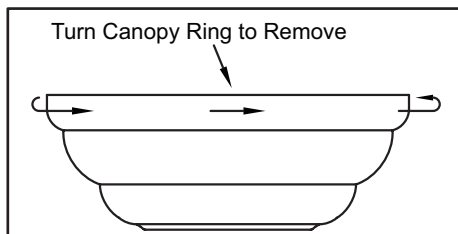

Figure 5
1. Remove the canopy ring from the canopy by turning the ring to the right until it unlocks (Figure 5).
1. Remove canopy ring from the canopy by turning the ring to the right until it unlocks (Figure 5).